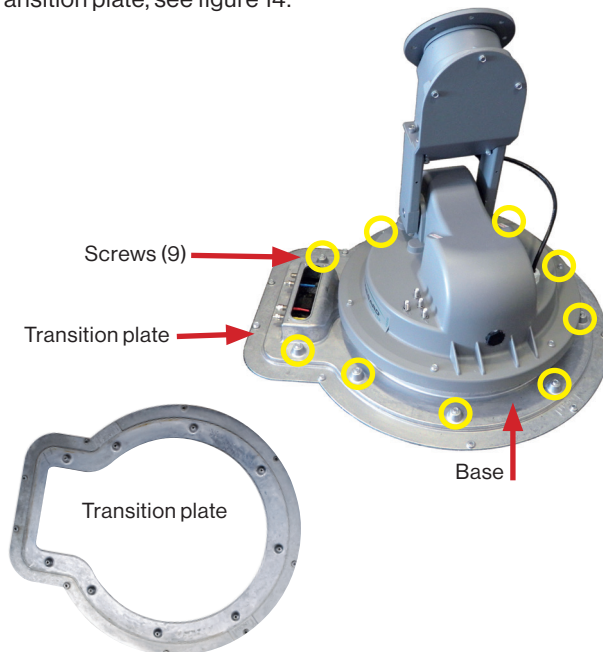

FIGURE 14. Remove turret from transition plate
1. Remove the nine 5/16" screws around the edge of the transition plate, see figure 14.